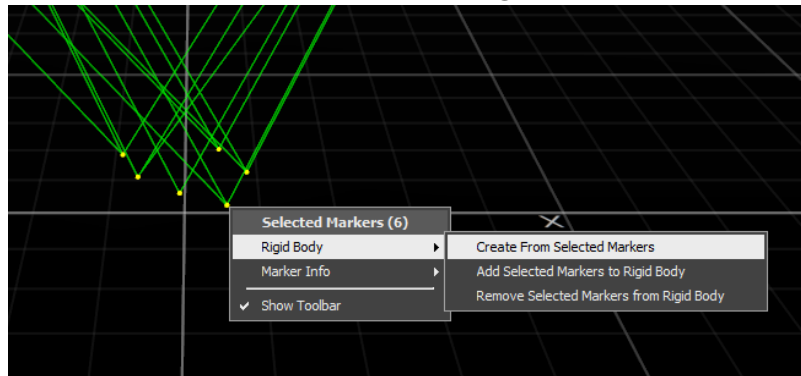

Figure 4. Creating rigid body from selected markers
3. Drag and select all the markers in the **Perspective View** window, right-click, and select **Rigid Body > Create From Selected Markers**. (Figure 4)
12. For multi-vehicle scenarios, all the vehicles must be defined in a single trackable file (*.tra). After step 4, place the second vehicle in the workspace and define a new rigid body (Refer to step 3) (Figure 4).